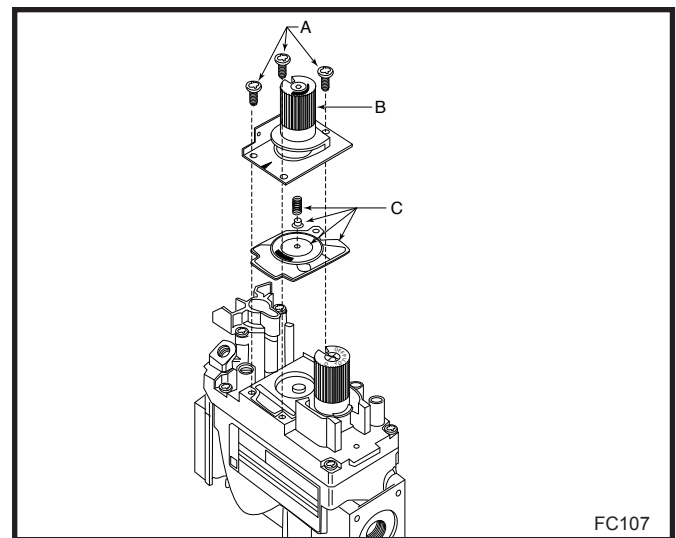

Fig. 50 Remove mounting screws, pressure regulator tower and spring and diaphragm assembly.
1. Using TORX T20 bit, remove and discard the three (3) pressure regulator mounting screws (A), pressure regulator tower (B) and the spring and diaphragm assembly (C). (Fig. 50)